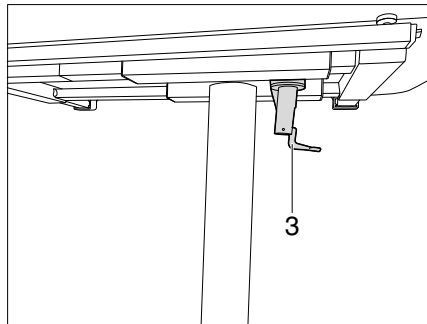

Fig. 123 Lock the folding table
- Swivel the catch lever (Fig. 123,3) to the right. The lift-off table is locked and can no longer be moved.